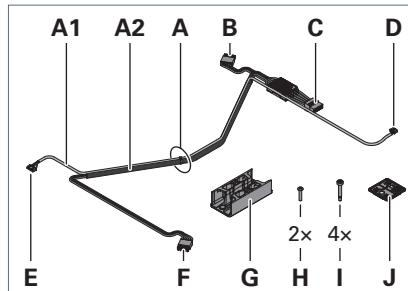

Fig. 1: Supplementary pack doubleT adapter.
►	Do not remove the components from the supplementary pack until they are required in the respective assembly step, see Fig. 1.
- ▶ Take the stranded wire set **A** out of the supplementary pack, see Fig. 1.